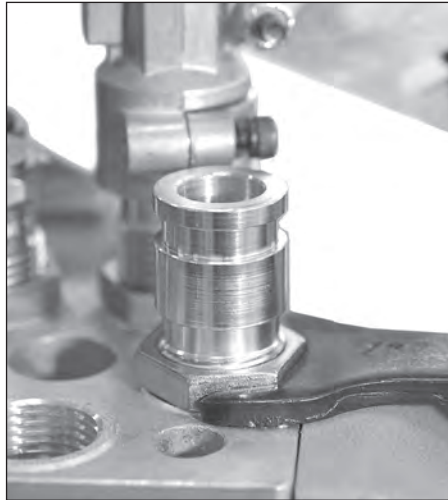

FIG 55
3. Run the locking down. Using a 1" wrench snug the locking **FIG 55**.